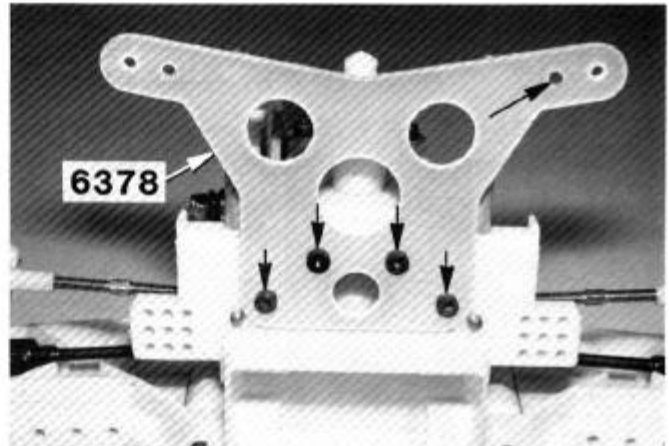

**FIG. 122**
□ **FIGS. 122 & 123**—Set the gap between the spring collars and the hex as shown by the arrows and tighten the screw just enough to keep them from slipping. If you overtighten the nuts you'll strip them out.